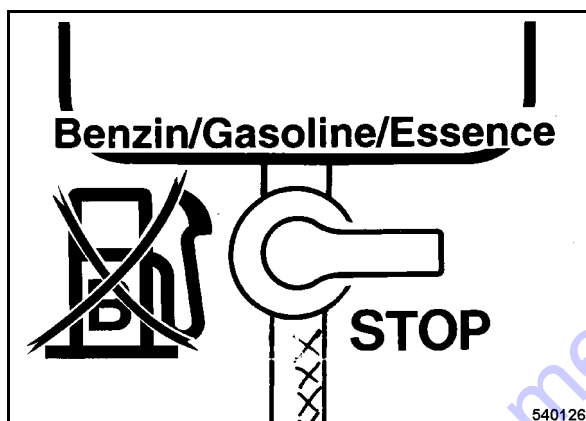

Fig. 34
- Set the fuel valve (Fig. 34) to STOP position (closed).